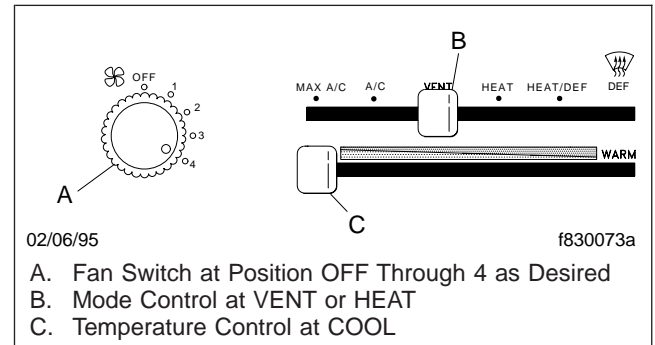

Fig. 4.9, Settings for Maximum Ventilation
1. Move the mode control to VENT or HEAT. See **Fig. 4.9**. In the VENT position, air comes out of the dashboard outlets but not out of the floor outlets. In the HEAT position, air comes out of the floor outlets and the outlets on either end of the